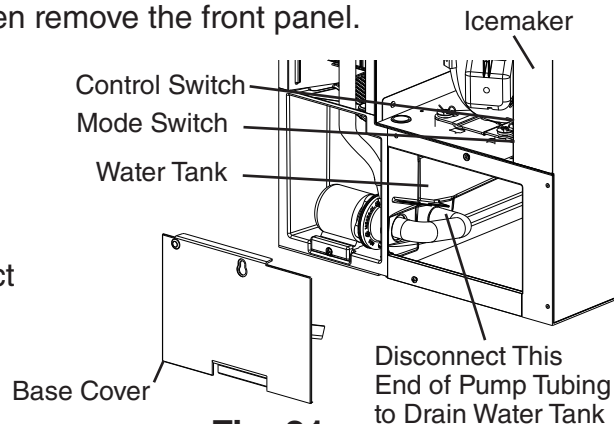

Fig. 21
- 12) Move the control switch to the "OFF" position, then remove the base cover and disconnect the rear pump tubing connection to drain the water tank. See Fig. 21.